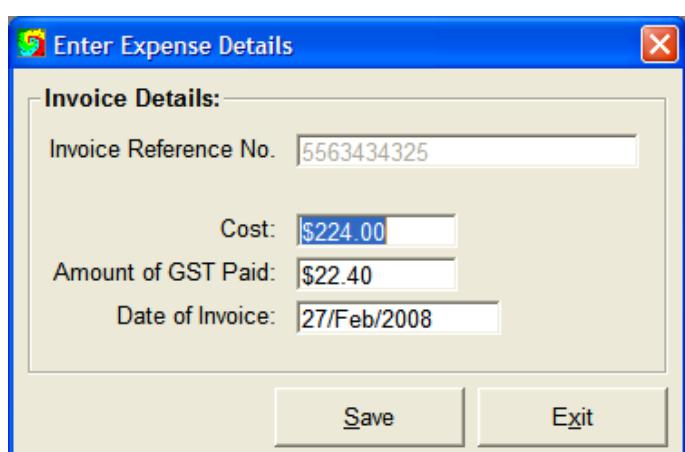

Figure 305
- Before the Invoice is completed you will be prompted to key in the Expense Details (as shown in Figure 305). It is important that the total 'Cost' (ex-GST) and 'Amount of GST paid' is correct for reporting purposes. It is also important that the 'Date of Invoice' is entered as the date on the paper invoice supplied by the wholesaler, NOT the day of processing.